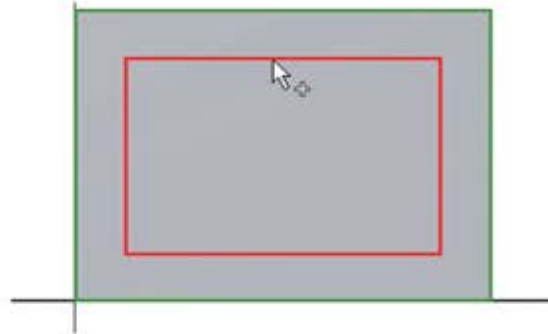

Figure 5–56
1. The **Offset** option is commonly used to create sketched entities offset from projected geometry. In the sketch shown in Figure 5–56, how many dimensions are required to fully constrain the sketch? Assume **Constrain Offset** and **Loop Select** are toggled on.